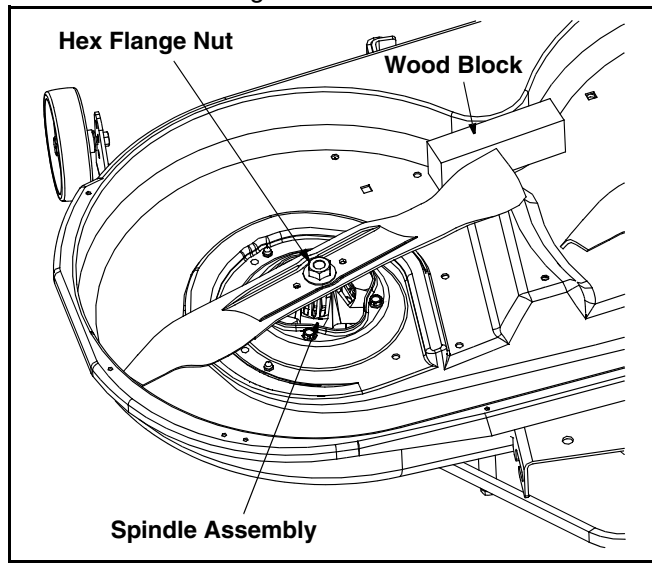

Figure 16
- Place a block of wood between the center deck housing baffle and the cutting blade to act as a stabilizer. See Figure 16.
- Use a 1-1/8" wrench to remove the hex flange nut that secures the blade to the spindle assembly. See Figure 16.